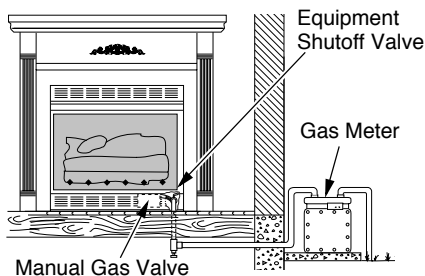

Figure 28 - Checking Gas Joints for Natural Gas Fireplace
3. Check all joints from gas meter for natural or propane/LP supply to equipment shutoff valve (see Figures 28 or 29). Apply noncorrosive leak detection fluid to all joints. Bubbles forming show a leak.
4. Check all joints from equipment shutoff valve to gas valve (see Figure 28 or 29). Apply noncorrosive leak detection fluid to all joints. Bubbles forming show a leak.